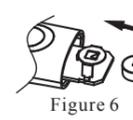

Figure 6
4. Use pointed object such as a pen to remove old battery. Discard battery lawfully. Replace with new 1.5V DC button type LR41 or SR41, UCC392, or equivalent. Be sure battery is installed with "+" polarity facing up. (See Figure 6).